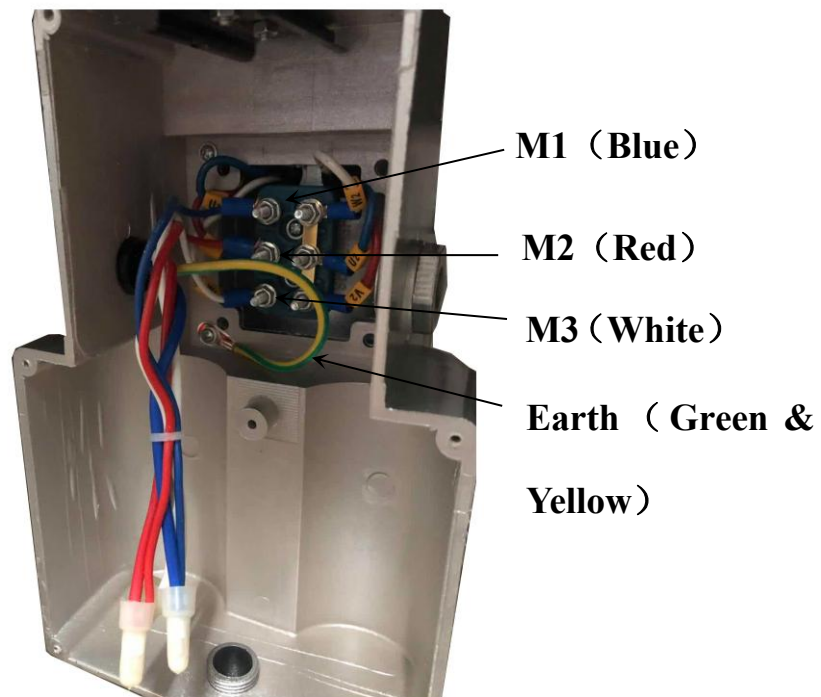

Fig. 45
5.2 380V Wire connection diagram of hydraulic motor (See Fig.45).